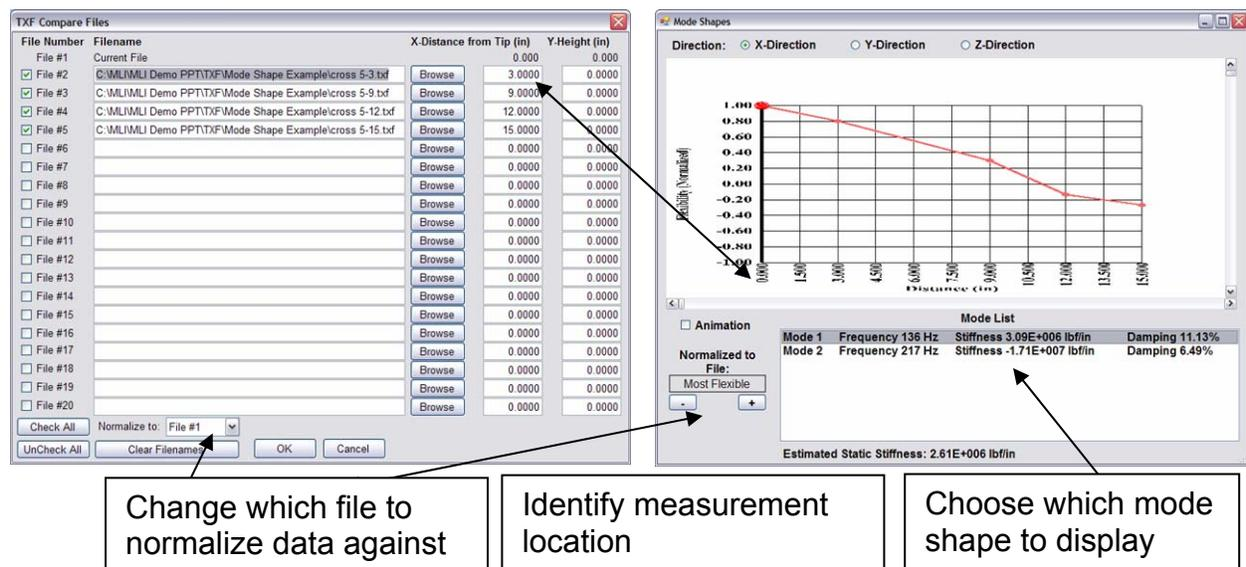
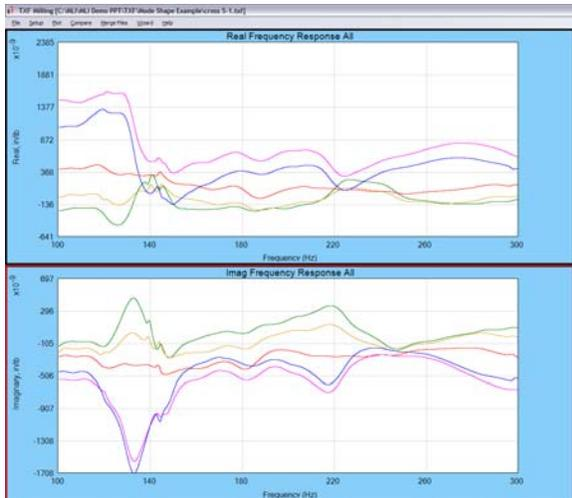

Figure 55: 3D Mode Shapes
Figure 56: Compare – Real/Imaginary – All, showing 5 measurements for Mode shape generation
The example shown in Figure 55 shows a 2D shaft mode where a set of measurements was made along a tool at distances 3", 9", 12", and 15" from the tool tip. The master file should be the direct measurement at the tool tip. The impact was made in the X direction. As seen Figure 56 in there are two dominant frequencies and therefore two mode shapes generated and displayed in Figure 55.
- Choose Compare – Real/Imaginary – All to view all the measurement files in one plot, as show in **Figure 56**.
- Choose Compare – 3D mode shapes to see the mode shapes as show in **Figure 55**.